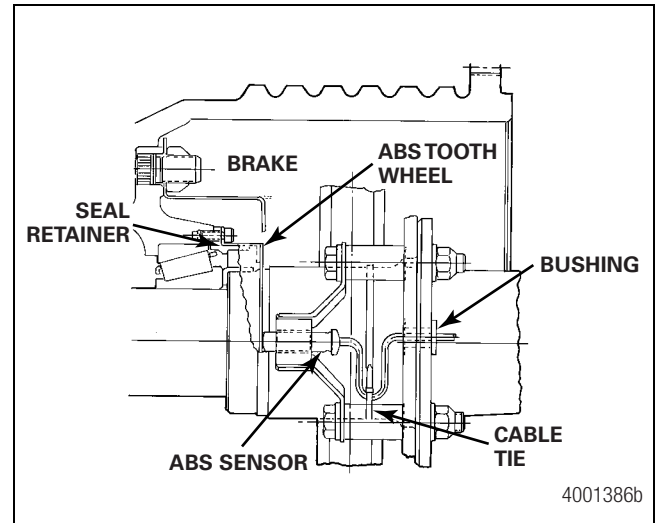

Figure 5.11
4. With the ABS sensor block in contact with the housing, use the bolts, washers and nuts to secure the support bracket assembly to the brake spider. Use washers under the bolt heads and under the nuts. Tighten the nuts to hold the bracket in position. Figure 5.11.